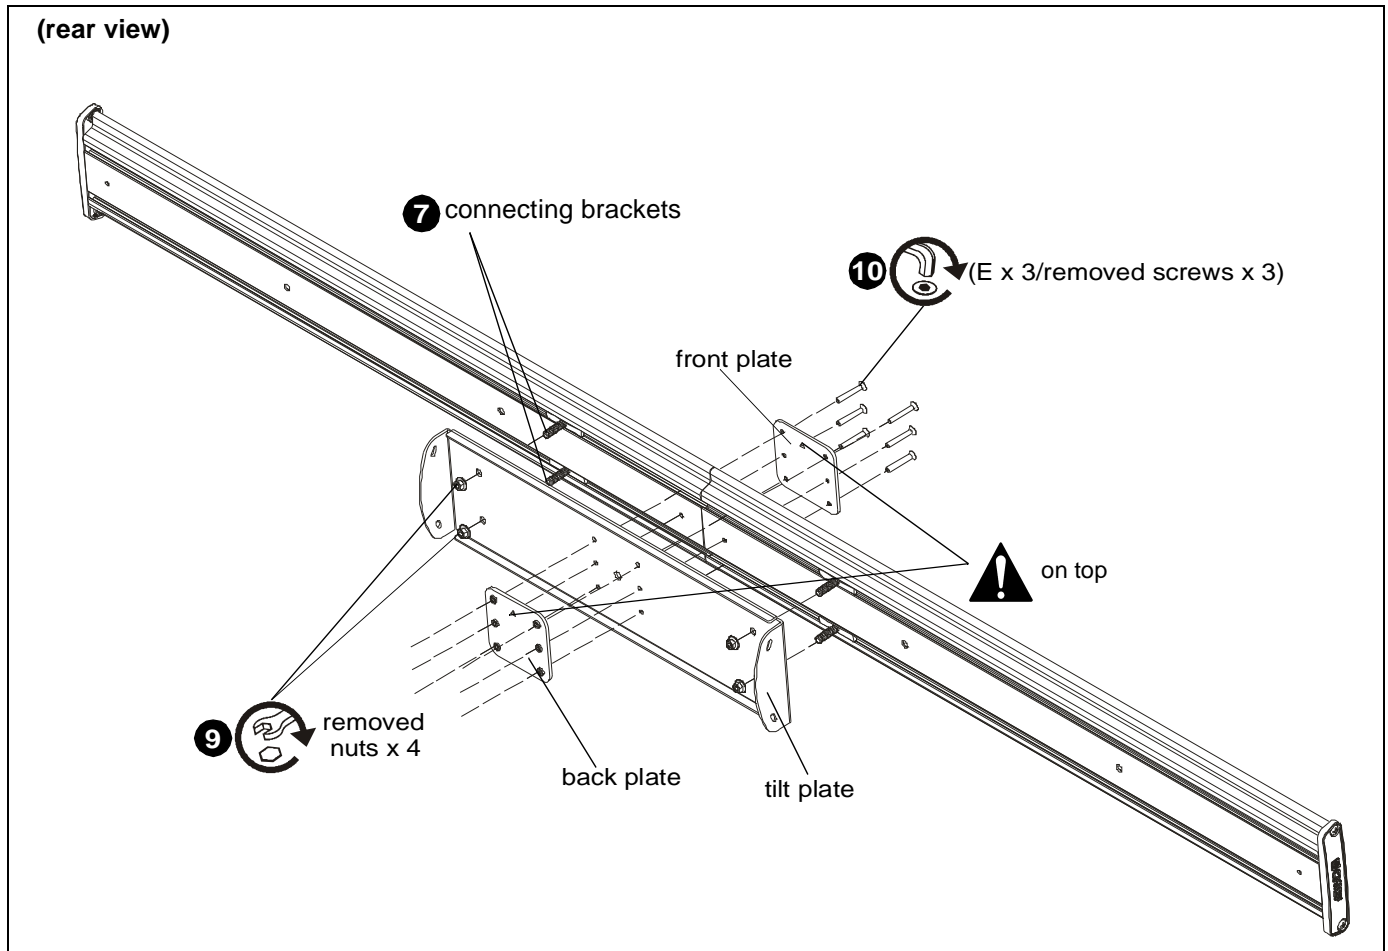

Figure 5
7. Slide two of four connecting brackets from XPAU head assembly into corresponding groove on FCA623 interface. (See Figure 5)
8. Align four connecting brackets with outside four holes on tilt plate. (See Figure 5)
9. Use four nuts removed in Step 4 to secure tilt plate to new head assembly. (See Figure 5)
10. Install six #10-24 x 1 1/2" flat head cap screws (E and removed screws) through front plate, new head assembly, tilt plate and back plate to create complete head assembly. (See Figure 5)
IMPORTANT ! : Make sure back plate and front plate are reassembled correctly. The triangles must be at the top when they are reattached! (See Figure 5)